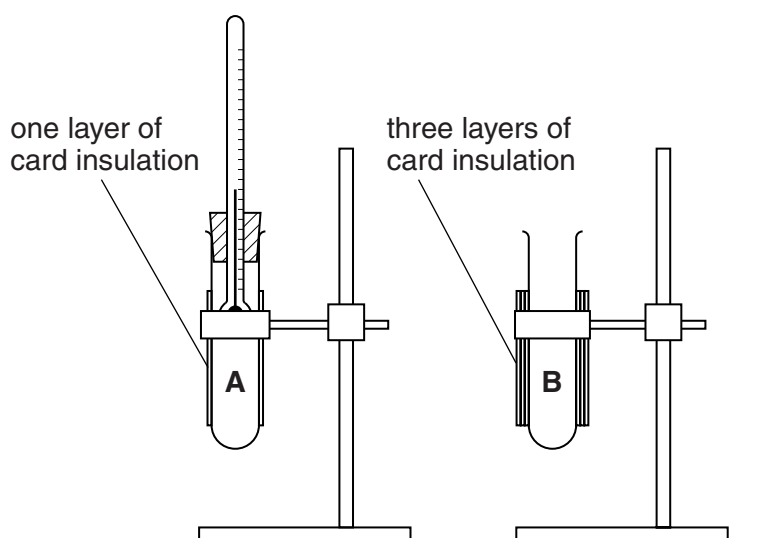
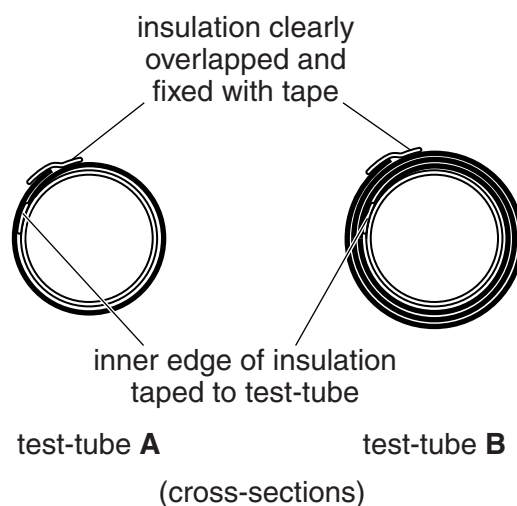

Fig. 4.1
Fig. 4.2
The sides of test-tube **A** are to be wrapped in one layer of thin card, as shown in Figs. 4.1 and 4.2. The sides of test-tube **B** are to be wrapped in three layers of the same card. The top of the insulation must reach the same level on each test-tube and should be taped to the test-tube, as indicated in Fig. 4.2, to prevent it from slipping along the test-tube. This level must be such that, when the test-tubes are filled with water to the level of the top of the card, they must not overflow when the thermometer and cork are inserted.
2. The thermometer must be mounted in the cork as shown in Fig. 4.1. When inserted into the test-tubes, the thermometer bulb must be below the level of the top of the card. Candidates must be able to read temperatures down to approximately 40 °C.
3. The apparatus is to be set up as shown in Fig. 4.1, without water in the test-tubes.
Empty the water from the test-tubes. Check that the apparatus is intact and arrange as shown in Fig. 4.1.